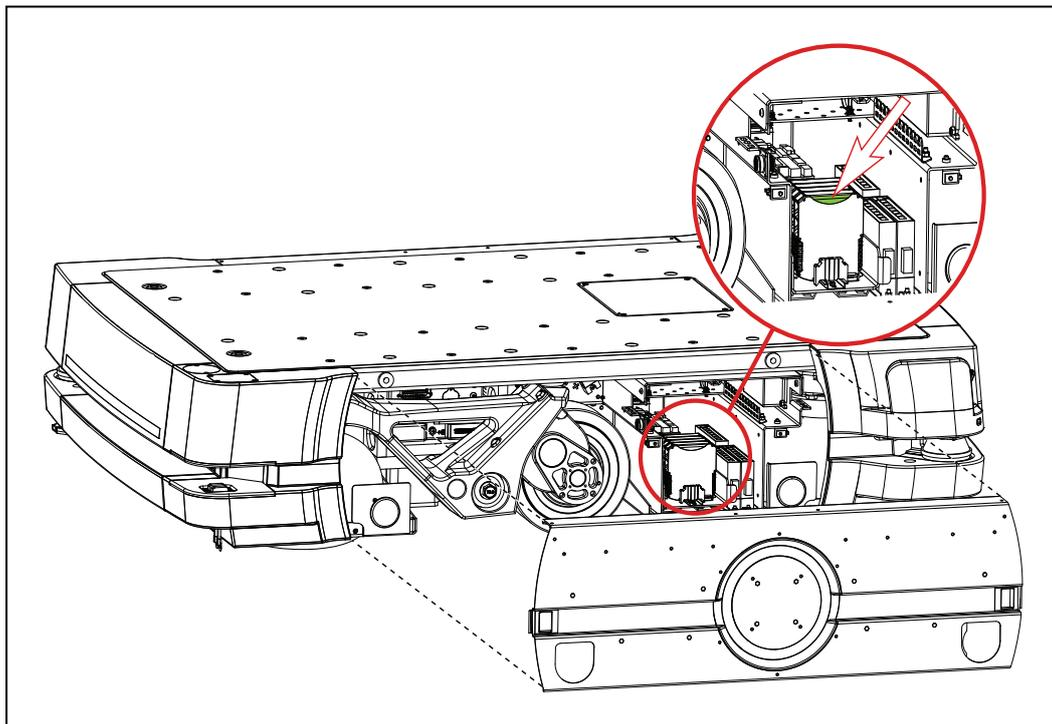
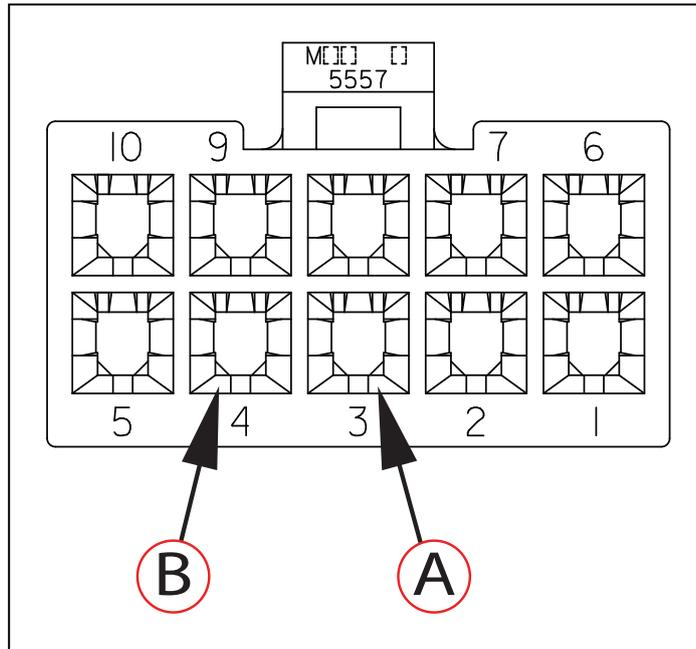

Figure 2-12. Location of the Module to be Probed
Figure 2-13. Module Connector Configuration - Viewed from the Rear, (A) Pin 3 (Negative), and (B) Pin 4 (Positive)
- Each motor controller is equipped with a capacitor that stores energy. You must check and make sure that the voltage left is less than 7 V. Probe the appropriate connector pins on the module displayed in Figure 2-12. using a digital multimeter. Prob the back of the pin 4 (positive), and pin 3 (negative) as shown in Figure 2-13.